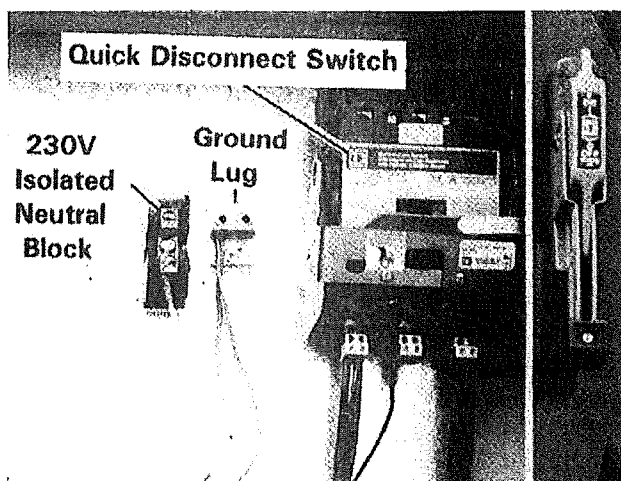

Figure 8 - Motor Control Cabinet
2. Connect the power supply to the top lugs of the dryer disconnect switch located in the upper motor control cabinet. See Figure 8.
3. When a 230 volt power supply is used, connect the supply neutral wire to the isolated neutral lug located in the motor control cabinet. See Figure 8.
must have the 230V supply wire connected to the center lug of the dryer disconnect switch as shown in Figure 8. If the 230V power supply wire is mistakenly connected to a 115V lug and the 115V wire that supplies power to the dryer controls is connected to this lug, the dryer controls will be damaged.
5. For this reason, the 115V power supply wire to the dryer control panel is not connected to the disconnect switch at the factory. There is a loose black wire with an orange tag attached that reads "115 Volts" that is close to the disconnect switch. Connect this wire to one of the 115 volt lugs at the bottom of the switch. See Figure 8.